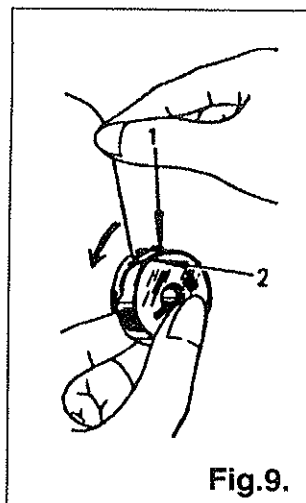

Fig.9.
2. Pull thread into notch (1), and draw it under tension spring (2) (see Fig.9).